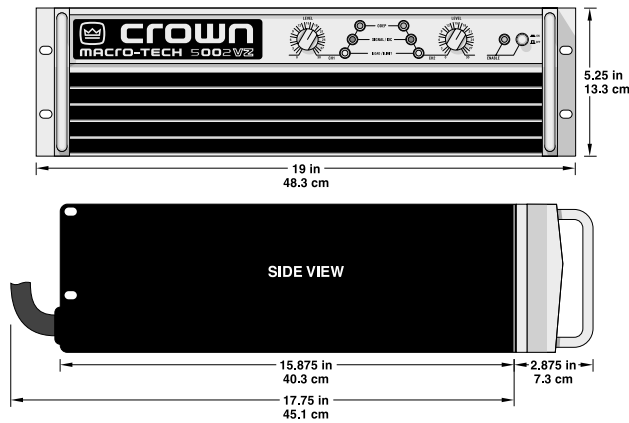

Figure 2.1 Dimensions
**Dimensions:** 19-inch (48.3-cm) standard rack mount width (EIA RS-310-B), 5.2-inch (13.3-cm) height, 15.875-inch (40.3-cm) depth behind mounting surface, and 2.875 inches (7.3 cm) in front of mounting surface (see Figure 2.1). Allow 3 inches (7.6 cm) behind the back panel for adequate air flow.